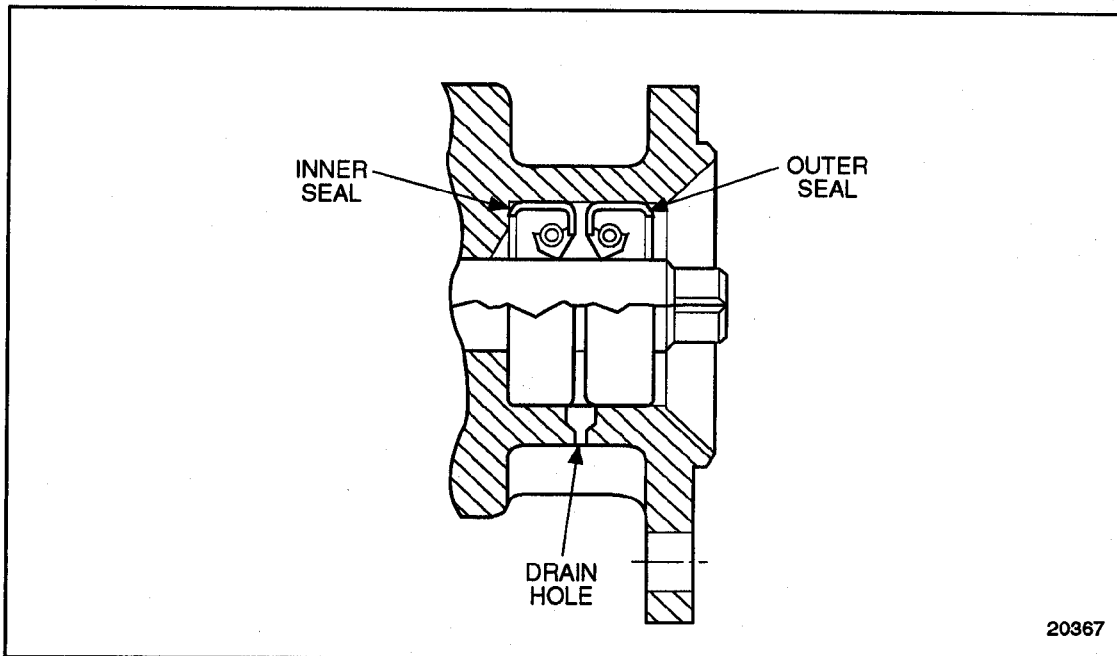

Figure 2-30 Fuel Pump Oil Seal Arrangement
Two oil seals are pressed into the bore in the flanged side of the pump body to retain the fuel oil in the pump and the lubricating oil in the fuel pump drive and gear case. The oil seal vent (4) (see Figure 2-29) serves as a vent passageway in the body between the inner oil seal and the suction side of the pump. This prevents building up any fuel oil pressure around the shaft ahead of the inner seal. The oil seals are installed with the lips of the seals facing each other. See Figure 2-30.